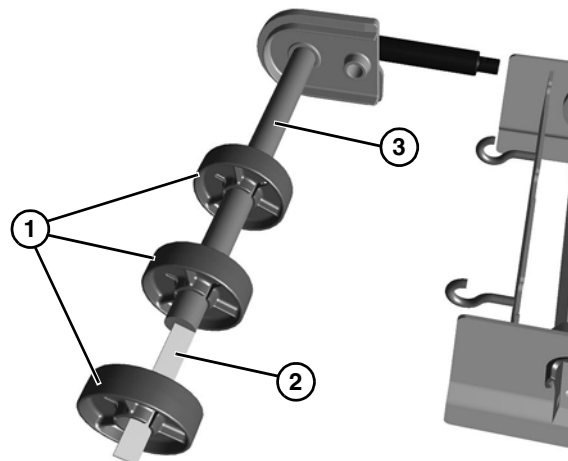

Figure 60
1. Place the pucks (Figure 60, item 1) onto the alignment bar (Figure 60, item 2), and install onto the idler shaft (Figure 60, item 3).
2. Slide all the idler pucks (Figure 60, item 1) along with alignment bar onto idler shaft (Figure 60, item 3).